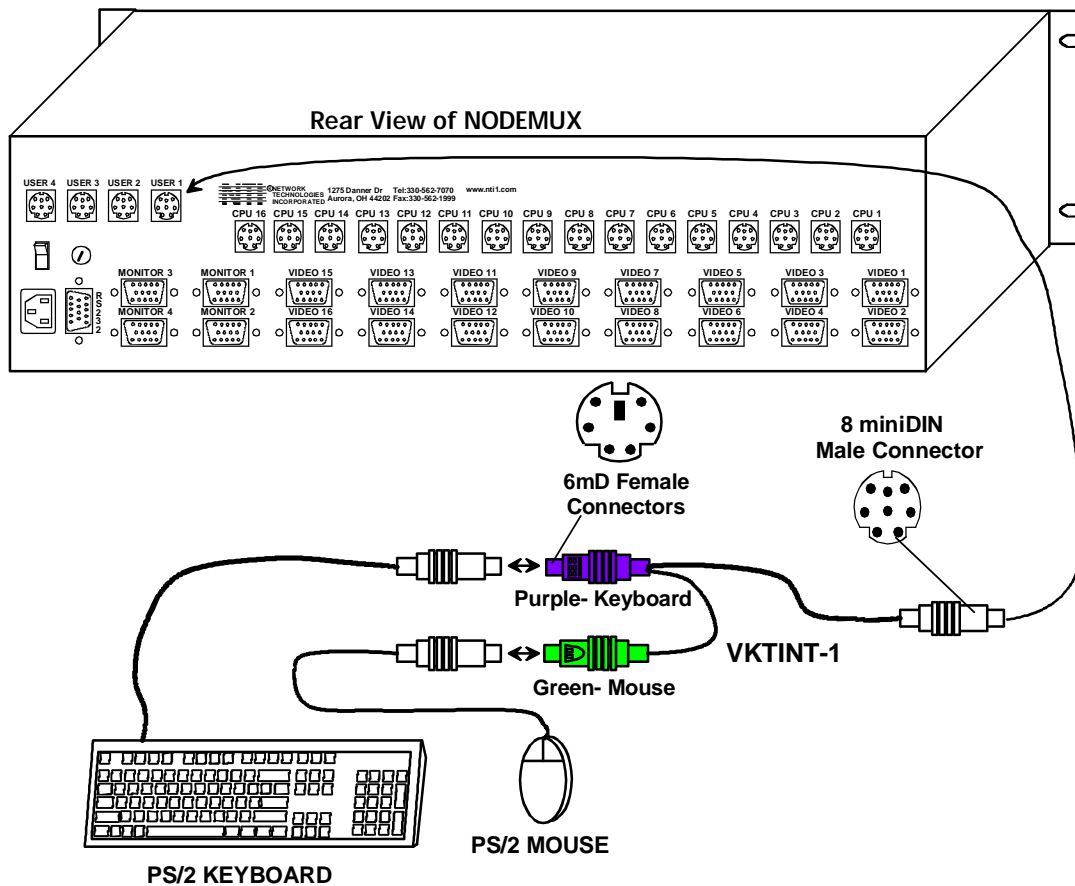

Figure 3- Connect PS/2 devices to NODEMUX
2. Connect the keyboards to the ports labeled "USER x" on the rear of the NTI Switch. (See Figure 3) Use the proper interface cables. (See also Cable Selection Guide on page 10.) Insure that the monitors and related keyboards have the same port numbers.